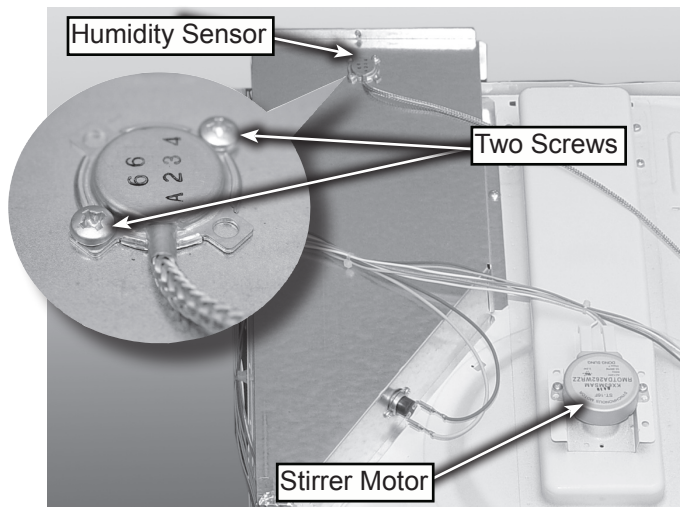

Figure 1
4. Remove two screws securing the humidity sensor to the microwave top, see figure 1.